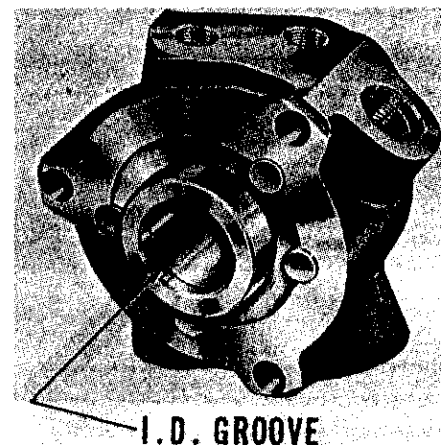

Fig. 15—Insert control valve spool in housing so that identification notch will be towards top end of steering shaft.
Note which end of the control valve spool has the identification groove (Fig. 15), then slide spool from housing. Remove the six plungers (30—Fig. 12), three springs (35) and the two check valves (29), noting which hole contained the check valves. If any of the brass seats (28 and/or 31) for the pump pressure line and the steering cylinder lines are damaged, remove them from valve housing by threading a tap into the seat, clamping tap in vise and pulling the housing from the seat. Remove seal (40) and bushing (42) from steering column. Remove seal (24) from adapter (23).